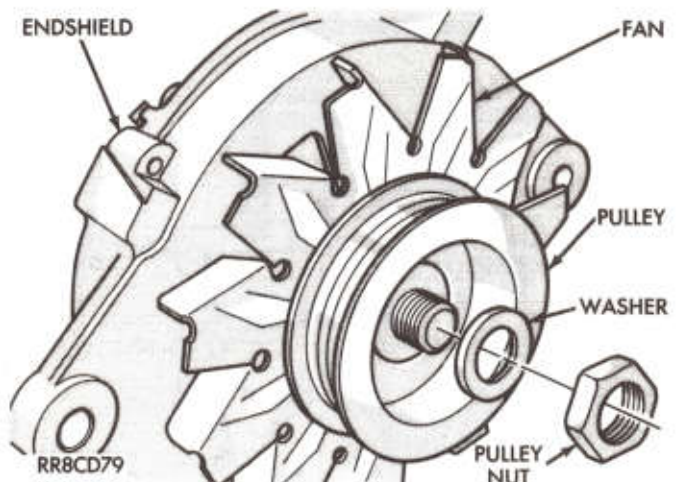

Fig. 11—Remove or Install Pulley Nut and Washer
- (9) Remove drive pulley nut and washer (Fig. 11).